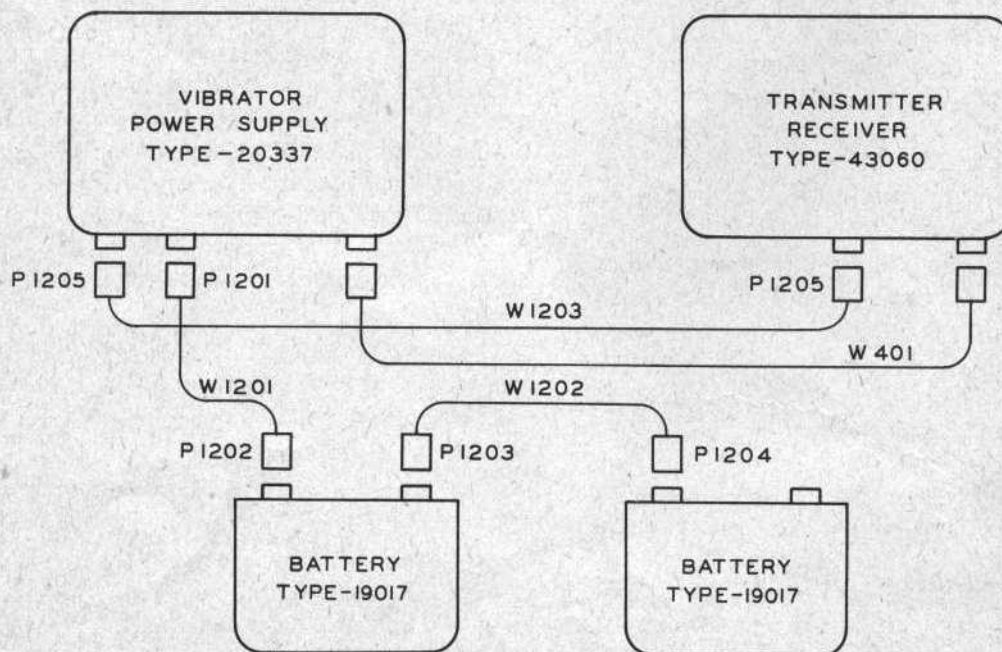

FIGURE 2-1 CORDING DIAGRAM
e. Connect one end of the battery supply cable W-1201 (6 ft.) to the socket marked "Battery Input." Connect the Transmitter Cable W-1203 (3 ft.) to the sockets marked "Transmitter Power Supply" on the power unit and the transmitter-receiver. Connect the battery cable W-401 (3 ft.) supplied with the transmitter-receiver equipment to the sockets marked "Receiver Power Supply," on the power unit and the transmitter-receiver. See Fig. 2-1 for cording diagram.